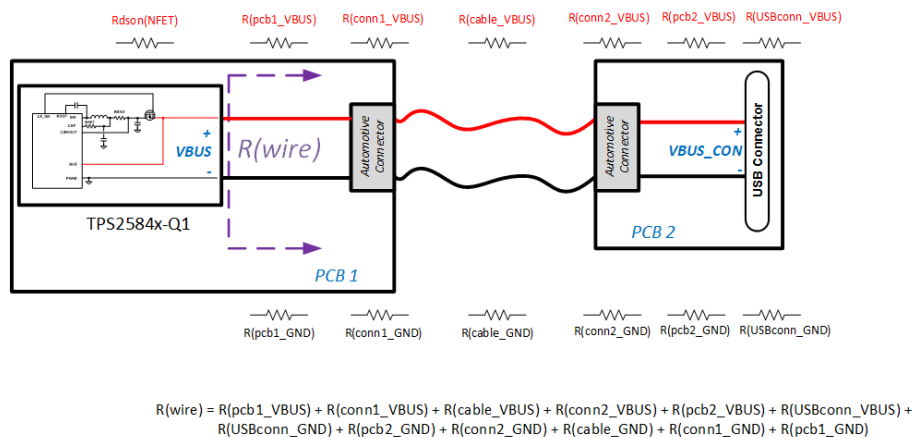

Figure 10-19. Automotive USB Resistances
When a load draws current through a long or thin wire, there is an IR drop that reduces the voltage delivered to the load. Cable droop compensation linearly increases the voltage at the CSN/OUT pin of TPS2584x-Q1 as load current increases with the objective of maintaining $V_{\text{BUS_CON}}$ (the bus voltage at the USB connector) at 5 V, regardless of load conditions. Most portable devices charge at maximum current when 5 V is present at the USB connector. Figure 10-19 provides an example of resistor drops encountered when designing an automotive USB system with a remote USB connector location.
- Cable compensation: Total resistance including cable resistance, contact resistance of connectors, TPS2584x-Q1 current sense resistor and external NFET $r_{DS(on)}$ (if used). Refer to 图 10-19 for examples of resistance in an automotive application.